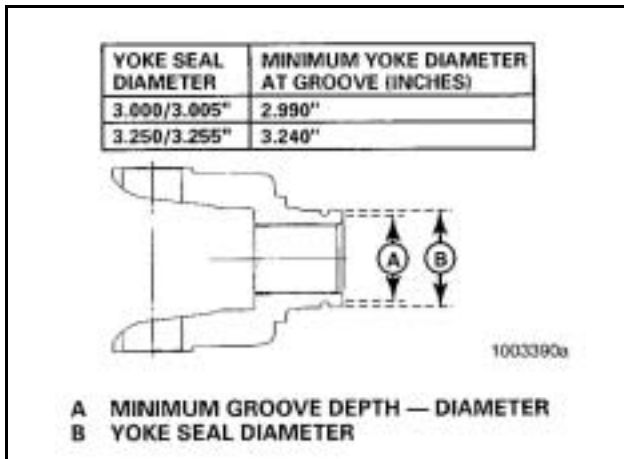

Figure 83
- **If you find grooves on the yoke:** Use calipers to measure the groove diameters. If any groove diameter measures less than the dimensions shown in **Figure 83**, replace the yoke.